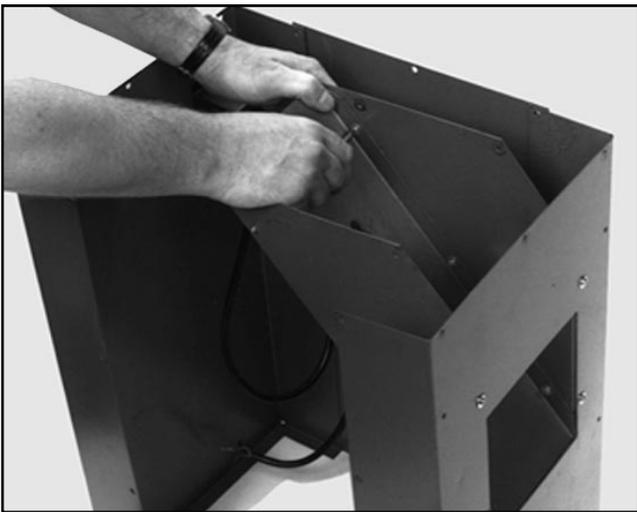

Figure 4. Attaching the dust chute base.
3. Position the dust chute base between the dust chute sides (flanges up), carefully aligning the screw holes in the base and the sides. **Figure 4.** The flanges should be inside the chute.